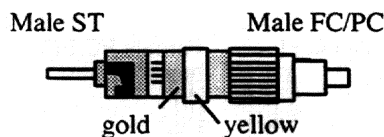

Figure 6-10 Single-Mode ST to FC/PC Adaptor, Male ST to Male FC/PC.
5. *Single-Mode Fiber ST to FC/PC Adaptor.* The single-mode ST to FC/PC adaptor (Figure 6-10) has a male ST connector on one end, a male FC/PC connector on the other end, and a gold body with a yellow band labeled “SINGLE MODE” in the center. (Referred to as “P” in cable diagrams beginning with Figure 6-21.)